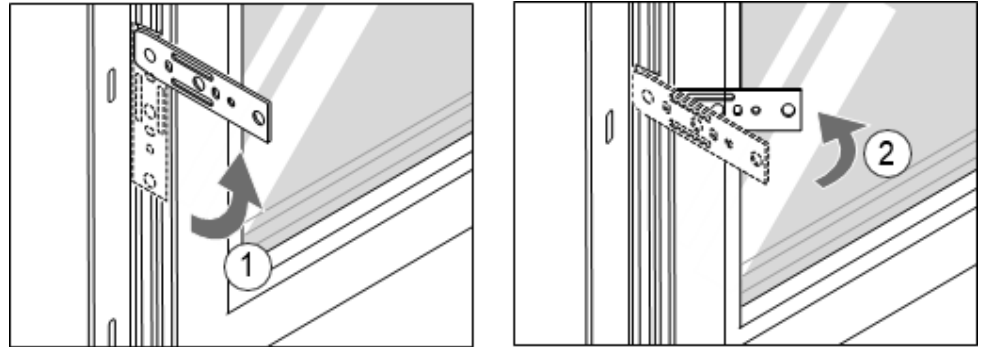

Figure 4-10. How to rotate and bend the strap anchors
- 1.2 If strap anchors are included, rotate them until they are at right angles to the frame. Bend the strap anchors inwards about 45°. See fig. 4-10.